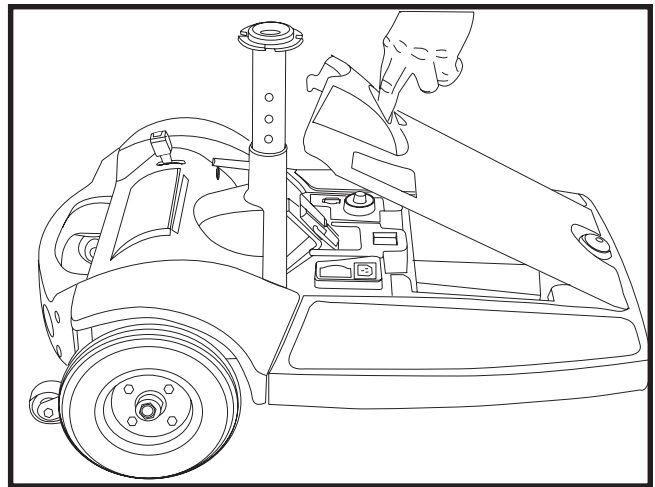

Figure 12. Battery Compartment Lid
1. Remove the battery compartment lid. See figure 12.